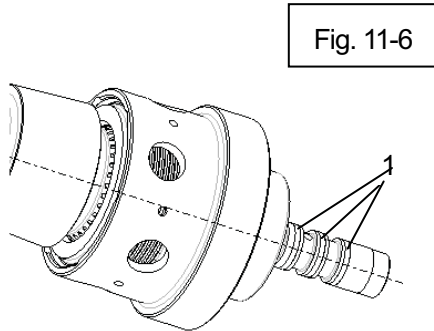

Fig. 11-6
(5) Assemble seal rings
Install seal rings (Fig. 11-6, item1) onto input shaft and support shaft.